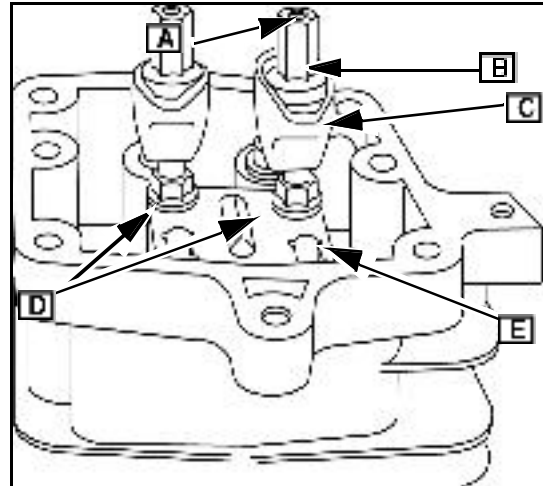

Fig. 5
- Remove rocker arm studs (D) and push rod guides (E Fig. 5), if equipped.
- Loosen rocker arm set screws ([A] Fig.5).
- Remove rocker arm nuts (B), and rocker arms (C).